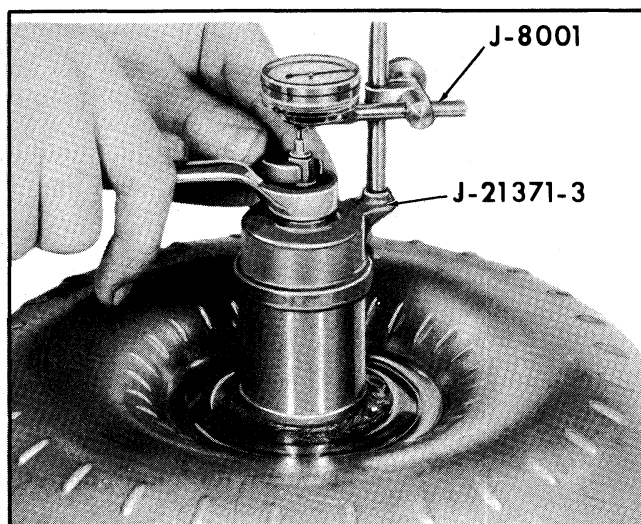

Fig. 7B-115 Checking Converter End Clearance
4. Install dial indicator holding fixture and tighten hex nut to raise converter internal assembly, which is gripped by collet. (Fig. 7B-115).